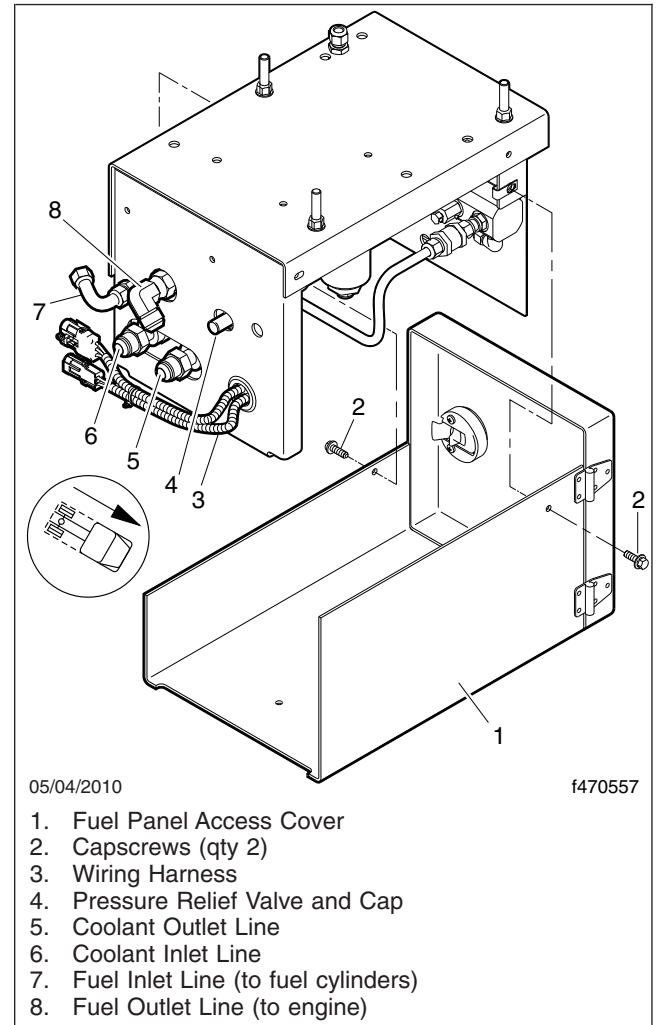

Fig. 21.16, CNG Fuel Panel Assembly
- 2.3 Remove the two capscrews that secure the access cover to the fuel panel, then remove the access cover. See **Fig. 21.16**. Save the capscrews for installation.